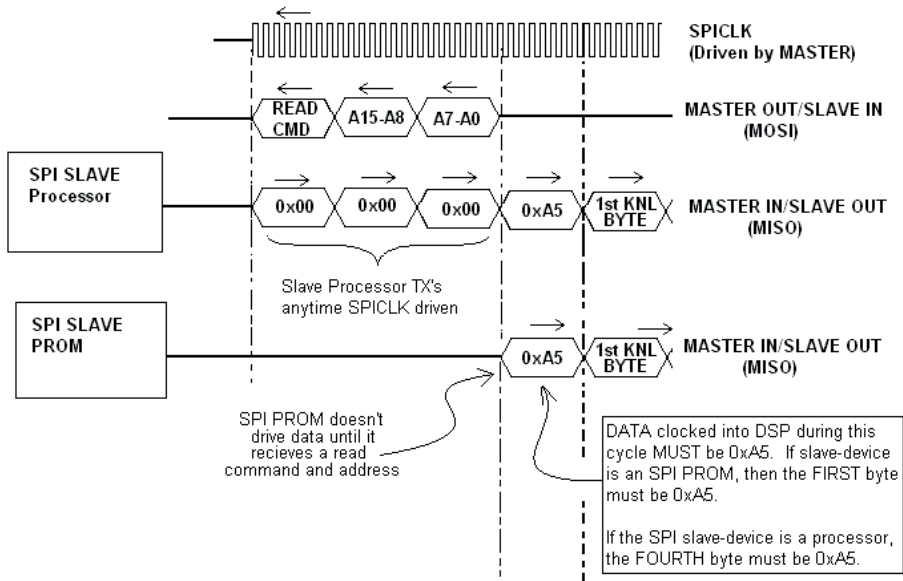

Figure 5-1. SPI Master Mode Booting Using Various Serial Devices
Figure 5-1 shows the initial 32-bit word sent out from the processor. As shown in the figure, the processor initiates the SPI master boot process by writing an 8-bit opcode (LSB first) to the slave device to specify a read operation. This read opcode is fixed to 0xC0 (0x03 in MSB first format). Following that, a 24-bit address (all zeros) is always driven by the proces-
- 1 Initial word for SPI master boot type is always 32 bits. See Figure 5-1 on page 5-13 for explanation.
- 2 Initial word for SPI PROM boot type is always 8 bits. See Figure 5-1 on page 5-13 for explanation
Typically, host processors in SPI slave mode transmit data on every `SPICLK` cycle. This means that the first four bytes that are sent by the host processor are part of the first 32-bit word that is thrown away by the processor (see Figure 5-1). Therefore, it is necessary for the loader to pad an extra four bytes to the beginning of the boot stream when programming the host; for example, the first byte of the kernel is the fifth byte of the boot stream. VisualDSP++ automatically handles this in the loader file generation process.